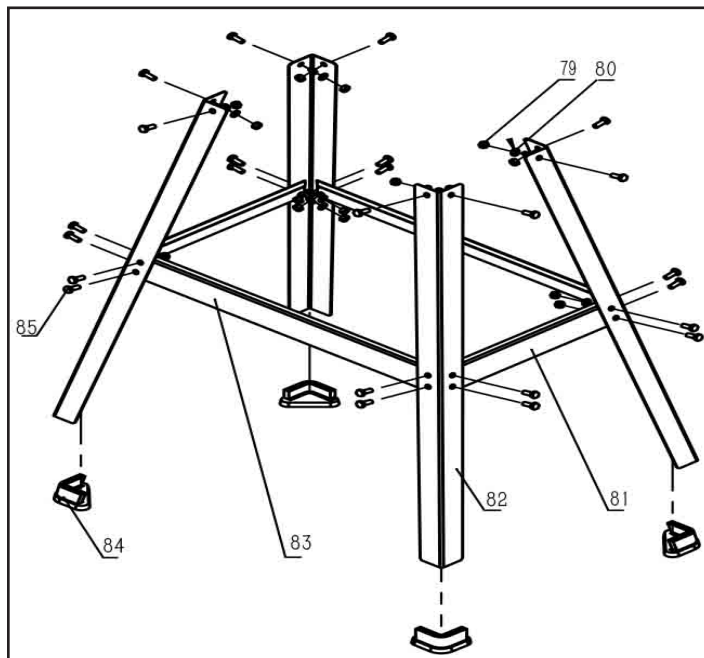

FIGURE 1
1. Install one side beam (part #81) and one side to a pair of legs (part #82) using sixteen Hex Head Bolts M6X16 (part #85), sixteen Flat Washers 6mm (part #80), and sixteen Hex Nuts 6mm (part #79) as shown. FIG.1